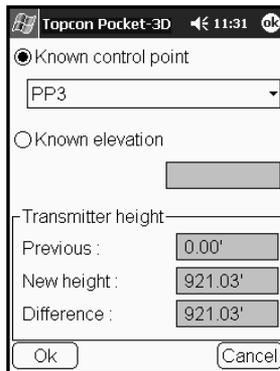

Figure 4-4. Measure Height of Transmitter
6. Press **OK**. The *Measuring* dialog box displays during the measurement. When done, the *Transmitter height* field displays the calculated difference between the height originally specified for the transmitter and the calculated height (Figure 4-4).